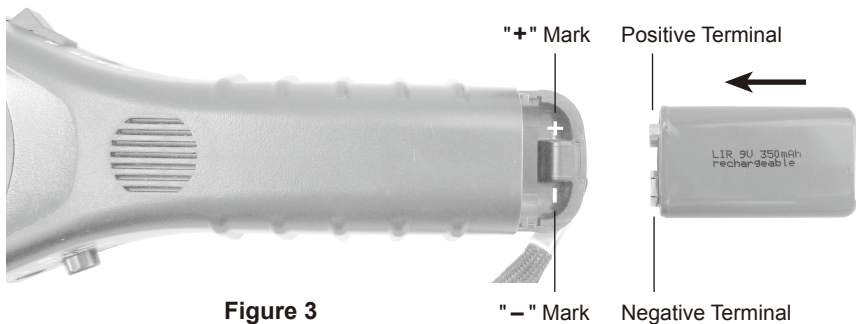

Figure 3
2. Refer to Figure 3, on the bottom of the battery compartment there are a positive polarity mark "+" and a negative polarity mark "-". (In order to facilitate observation, the marks in the figure have been whitened). Install a new battery into the battery compartment, make sure that polarity connections are correct (see Figure 3); otherwise the detector may be damaged.
2. Remove the battery cover. Install the rechargeable battery into the battery compartment, make sure that the polarity connections are correct (see Figure 3). Reinstall the battery cover.